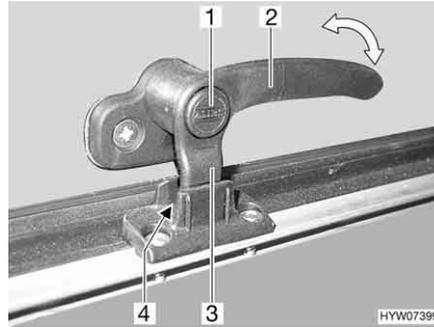
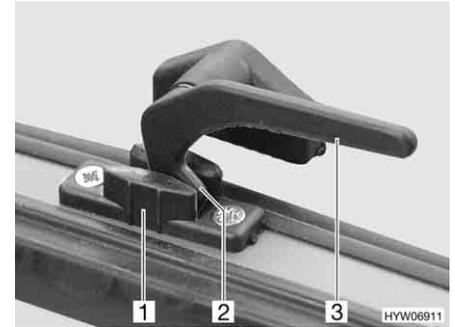

Fig. 76 Catch lever with safety knob in "continuous ventilation" position
Fig. 77 Catch lever in the "continuous ventilation" position
- "Continuous ventilation" (Fig. 76 and Fig. 77)
- Press and hold the security button (Fig. 76,1), if present.
- Turn all catch levers (Fig. 76,2 or Fig. 77,3) a quarter turn towards the centre of the skylight.
- Return all catch levers to their initial position. The locking catch (Fig. 76,3 or Fig. 77,2) has to be moved into the recess of the skylight lock (Fig. 76,4 or Fig. 77,1).